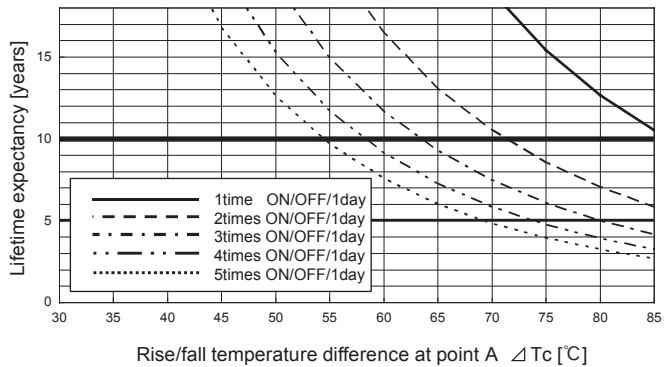
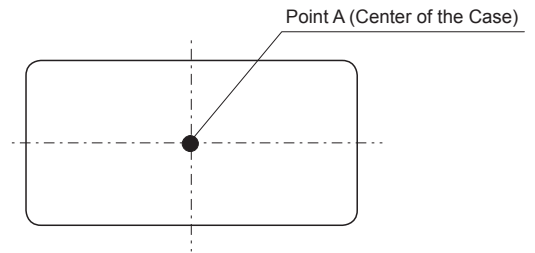

Fig.12.3 Lifetime expectancy against rise/fall temperature difference
Fig.12.4 Temperature measuring point (Top View)
- Product lifetime expectancy depends on case temperature difference ( $\Delta T_c$ ) and number of cycling in a day is shown in Fig.12.3 (It is calculated based on our accelerated process test result.) If case temperature changes frequently by changing output load factor etc., the above the lifetime expectancy design should be applied as well. And point A which is shown in Fig.12.4 must keep below 110°C.
- The warranty period is basically 10 years, however it depends on the lifetime expectancy which is shown in Fig.12.3 if it is less than 10 years.